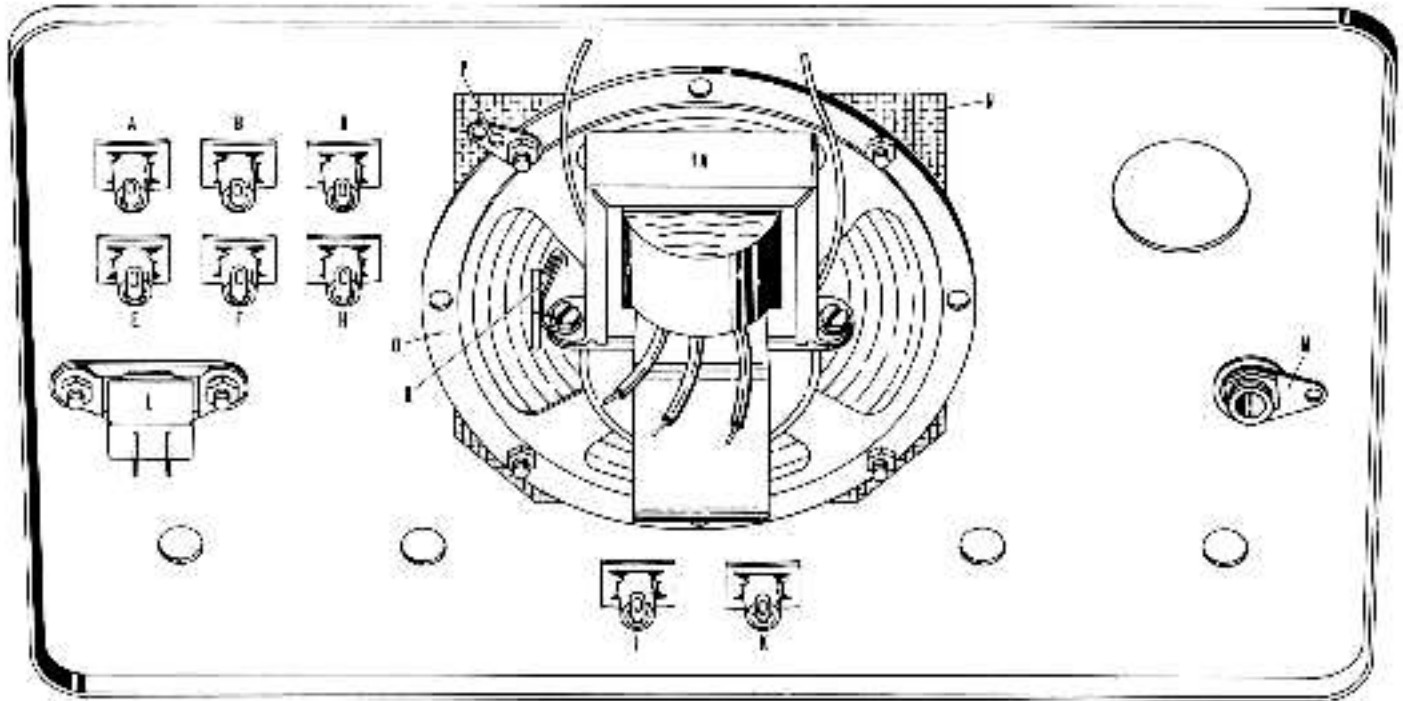

FIGURE 1
### REFER TO FIGURE 1 THROUGH 3
- ( ) 10. Install the INPUT coaxial connector in hole at panel location M. Use a control lockwasher, ground lug, and control hex nut. Orient ground lug to side of panel. See Figures 1 and 3.